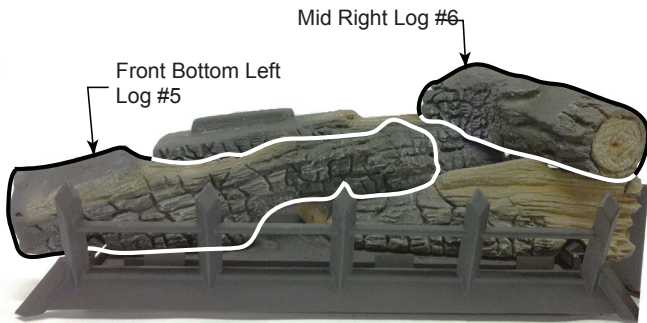

Figure 39
- Place front bottom left log (#5) on left pin located on burner and left grate bar. The right side of the log should rest on log #4. *Figure 39*